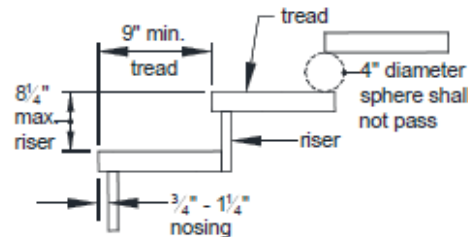

FIGURE 37: TREADS AND RISERS
- Hold-down anchors, as shown in FIGURES 37 and 38, shall be used to attach the guard post to the end joist and rim joist, respectively.